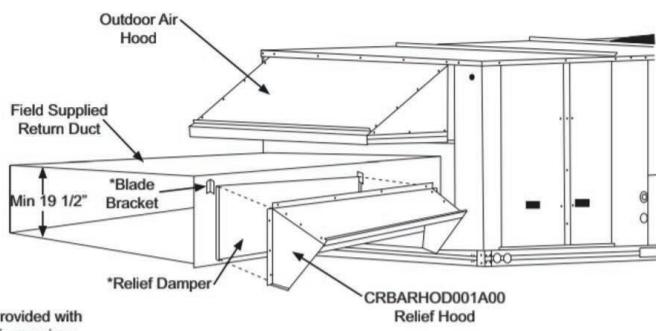

Fig. 35 — Installing CRBARDH001A00 Over Relief Damper
4. Using the blade brackets, install the relief damper onto the side of the return duct (see Fig. 35). The two brackets and relief damper are provided with the economizer.
Caulk the backside of the mating flanges to ensure a watertight seal. Install the CRBARHOD001A00 over the relief damper and screw to the return duct, as illustrated in Fig. 35.